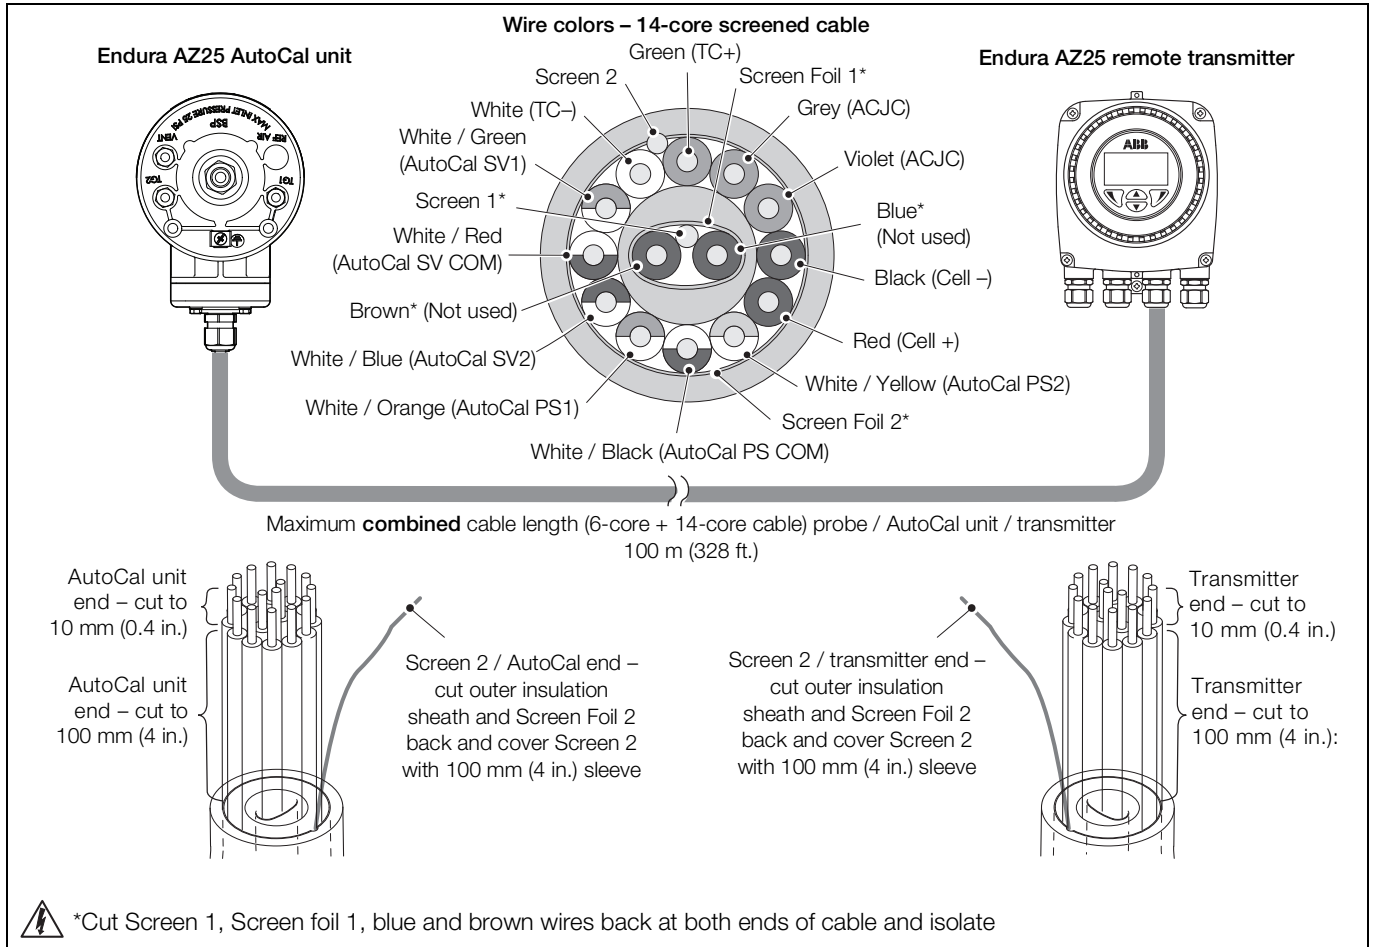

Fig. 4.5 Cable preparation – 14-core cable / Endura AZ25 AutoCal unit to Endura AZ25 remote transmitter
- 14-core cable: Endura AZ25 AutoCal unit to Endura AZ25 transmitter only – see Fig. 4.5, page 25
- 14-core cable: at Endura AZ25 AutoCal unit: outer insulation sheath and screen foil cut back and isolated, drain wire connected to AutoCal unit outer terminal block SCN connector – see Fig. 4.5, page 25
- 14-core cable: at Endura AZ25 transmitter: outer insulation sheath and screen foil cut back and isolated, drain wire connected to transmitter internal terminal earth stud – see Fig. 4.5, page 25